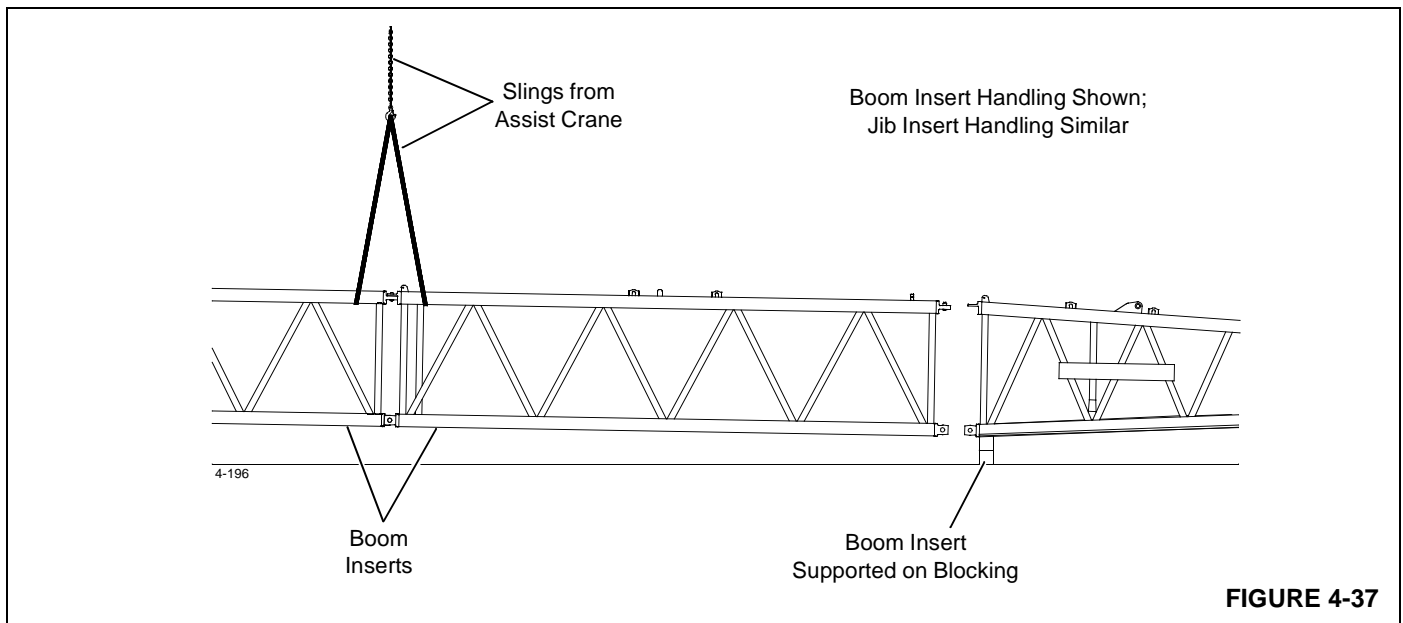

FIGURE 4-37
- Do not cantilever more than 40 ft (12,2 m) of insert from end of inserts being lifted. Attach nylon slings to both inserts as shown in Figure 4-37.